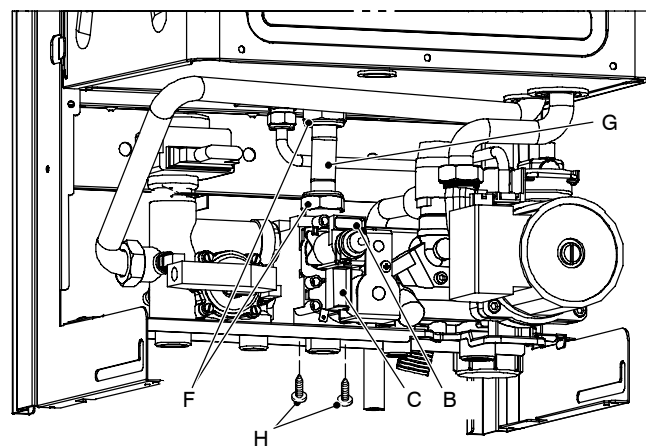

Fig. 49
- 2 Disconnect the connectors *B* (Fig. 49) from the modulating operator and measure the electrical resistance of the coil. Its electrical resistance value must be approx. 80 Ω*.
- 2 Disconnect the electrical connector *C* (Fig. 49).
- 2 Disconnect the connectors *B* and *C* (Fig. 49).